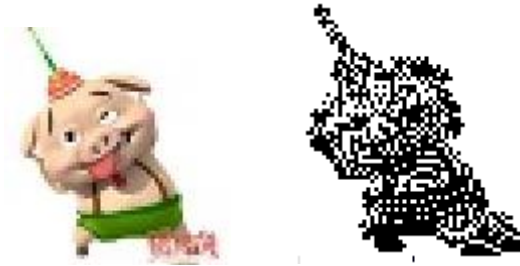

Fig.4-37 Dither Outlets
**Dither:** This effect is similar to the “Halftone Pattern” function in Adobe PhotoShop. It uses a black-and-white image to simulate a grey scale image and achieves different grey scale effects by adjusting the density of points based on black and white colors, as shown in Fig. 4-37.
**Outlets:** Dot representation is similar to the "halftone pattern" function in Adobe Photoshop. Black and white dichroic images are used to simulate gray-scale images, and black and white dichroic images are used to simulate different gray-scale effects by adjusting the density of points, as shown in figure 4-37.